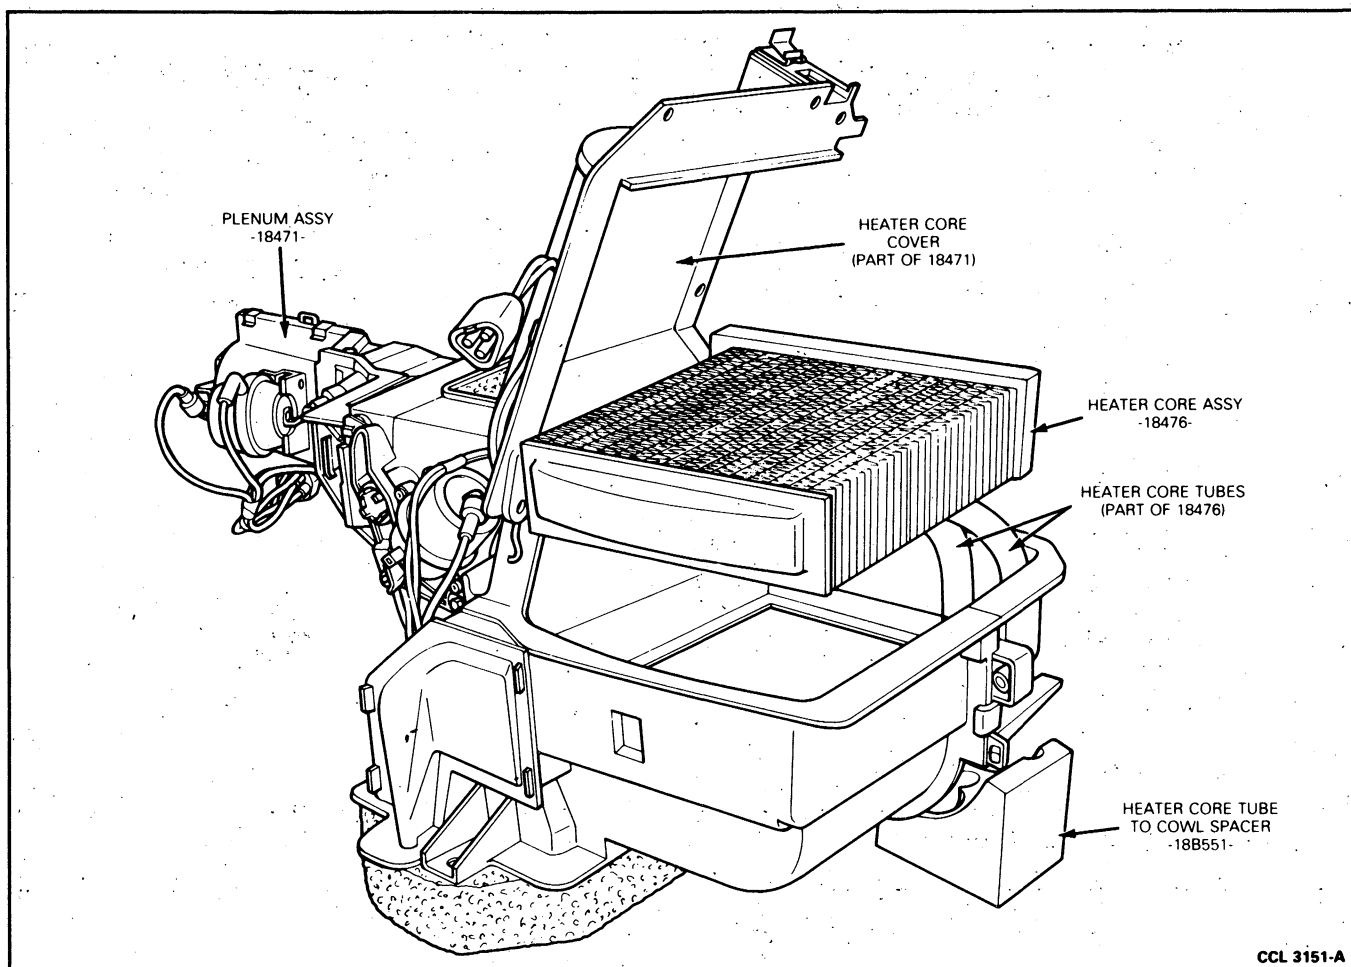

FIG. 35 Heater Core Access Cover and Core Removal
4. Engage the Orifice Tube Remover and Installer T83L-19990-A (Motorcraft YT-1008) or equivalent with the two tangs on the fixed orifice tube (Fig. 35).